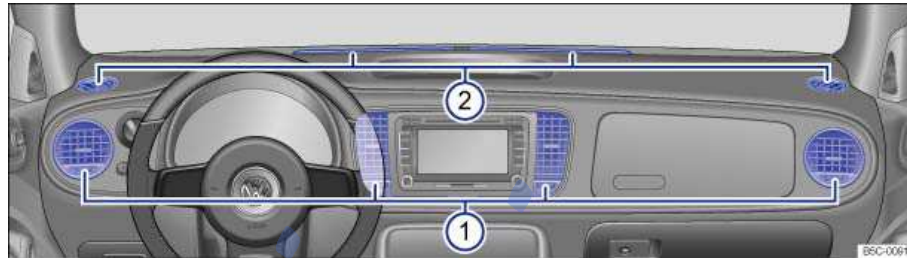

Fig. 134 In the instrument panel: Air vents.
To help ensure sufficient heating, cooling, and ventilation in the passenger compartment, never close the air vents completely ⇒ fig. 134 (1).